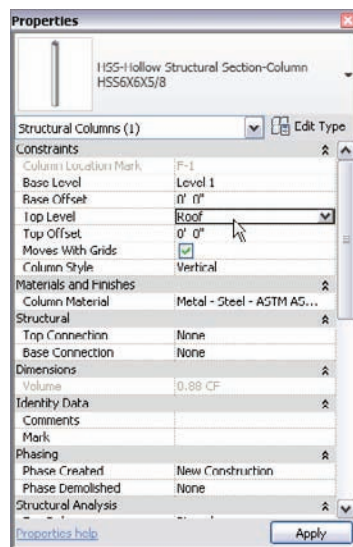

FIGURE 8.26 Setting the column's Top Level to extend to the roof
18. In the Properties dialog box, make sure that the top level is set to Up To: Roof, as shown in Figure 8.26 (just to check).